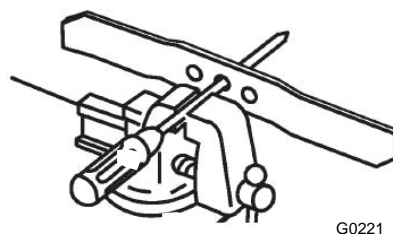

FIGURE 18
- h) Check the balance of the blade by placing the center hole of the blade over a nail or screwdriver shank clamped horizontally in a vise (Figure 18). If either end of the blade rotates downward, file that end (not the cutting edge). The blade is properly balanced when neither end drops.